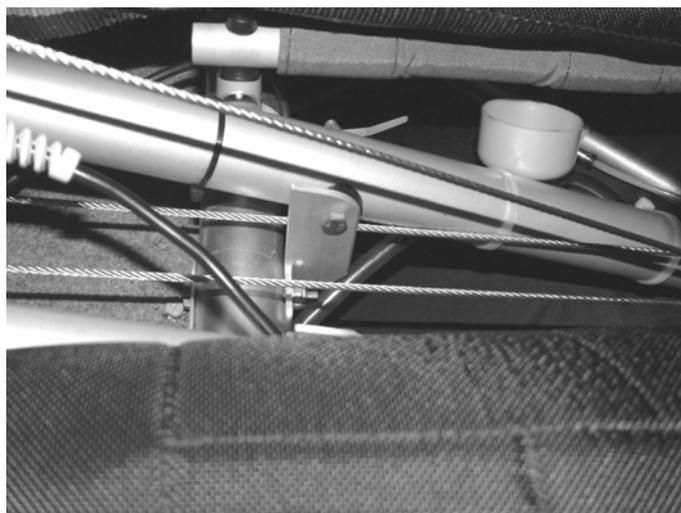

Figure 114; starboard rudder cable routing past central braces.
The cable from the starboard-side pedal is the one which passes through the starboard-most pulley in the group of three. The cable from the port-side pedal passes through the separate pulley on the port side. Note the cable routing for the starboard cable shown in Figure 114.
- b) Fine adjustments to the pulley positions can be made. The pulleys have to be carefully shimmed with thin washers between the starboard central cabin tube **tu19** and the first pulley plate to ensure that the rudder cable just avoids rubbing on the tube where it runs from the pedal to the pulley, Figure 114.